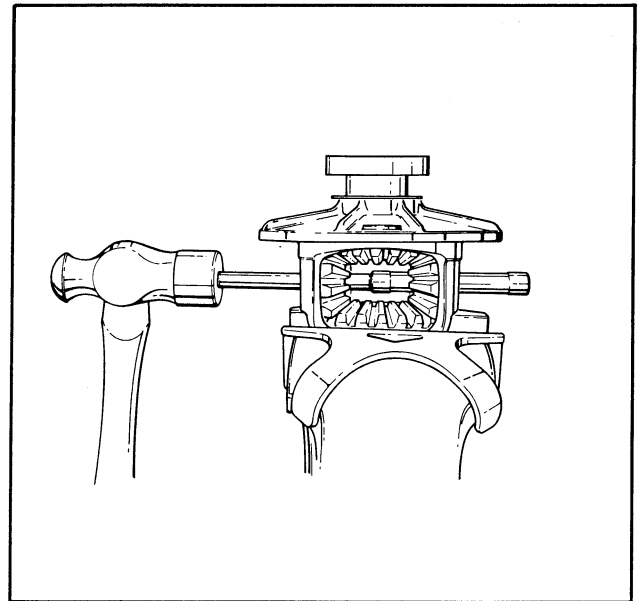

Figure 39 – Remove Idler Gear Shaft
- l. Drive idler gear shaft (30) from case with long brass drift. See Figure 39.
- m. Remove idler gears (28) and thrust washers (26) (one on back of each gear) by rotating both gears 90° to opening in differential case.
- n. Remove differential side gears (28) and thrust washers (27) (one on back of each gear) through opening in differential case.